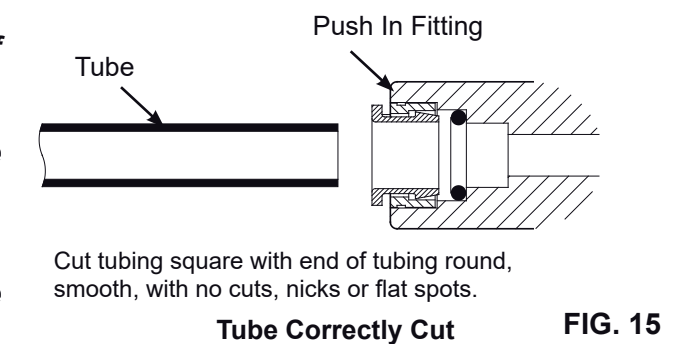

FIG. 15
2. Always cut the tubing square. See Fig. 15.
3. Inspect the tube up to 2.5 cm from the end to be sure there are no nicks, scratches or other rough spots. If needed, cut the tubing again. See Fig. 15.
3. Cut tube square. See Fig. 15.
6. Cut tube square and to length. See Fig. 15.
3. Cut tube square and to length. See Fig. 15.